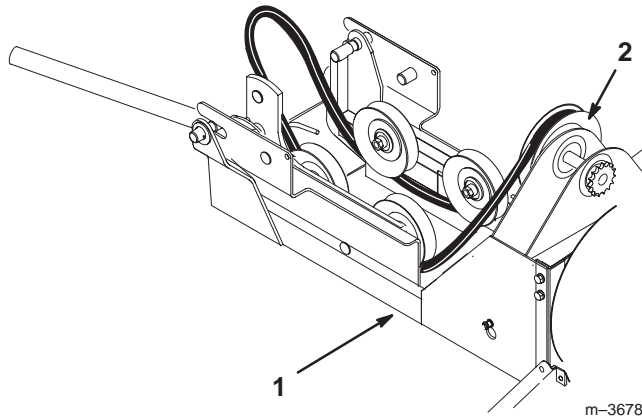

Figure 40
6. Slide the pulley box into the snowthrower frame (Fig. 40).
7. Route the belt over the snowthrower pulley (Fig. 40).